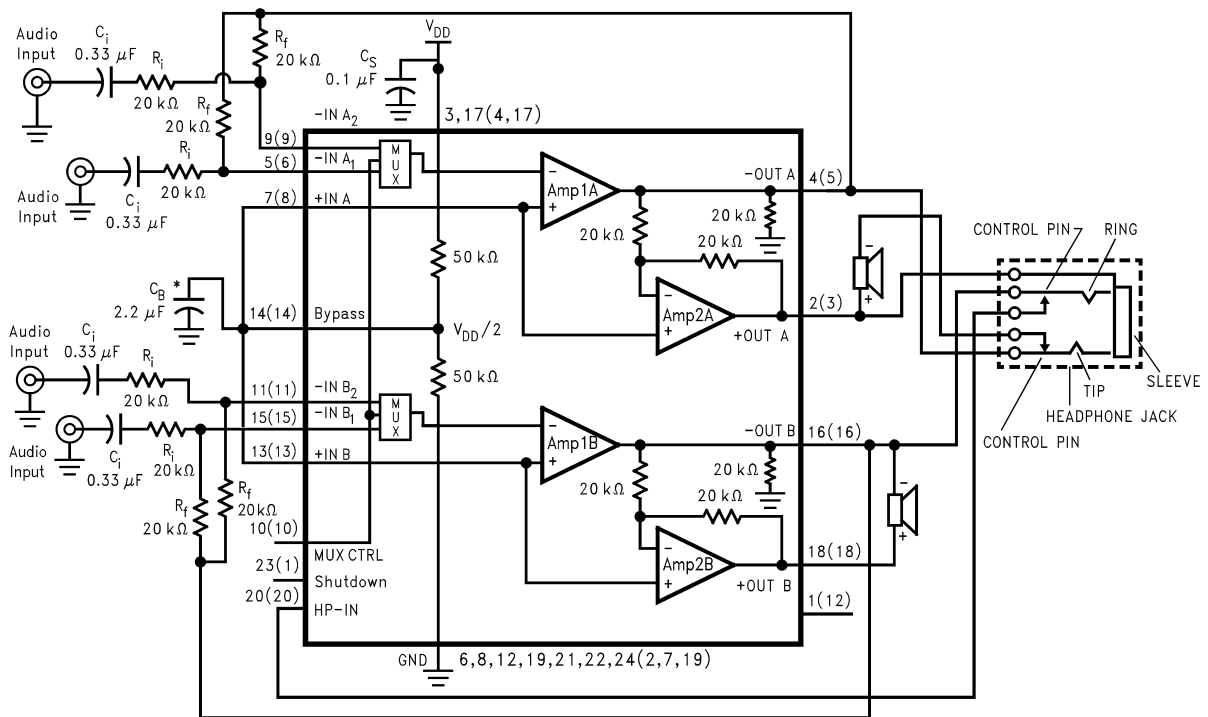

FIGURE 4. Typical Audio Amplifier Application Circuit
The LM4867's noise-free operation plus coupling-capacitorless headphone operation and functional compatibility with the LM4873 and the LM4863 simplifies upgrading systems using these parts. Upgrading older designs that use either the LM4863 or the LM4873 is easy. Simply remove and short the coupling capacitors located between the LM4873's or LM4863's Amp1A and Amp1B outputs and the headphone connections. Also remove the $1\text{k}\Omega$ resistor between each headphone connection and ground. Finally, remove any resistors connected to the HP-IN pin (typically two $100\text{k}\Omega$ resistors). Connect the HP-IN pin directly to the headphone jack control pin as shown in Figure 4.
The LM4867's unique headphone sense circuit requires a dual switch headphone jack. Replace the four-terminal headphone jack used with the LM4863 and LM4873 with the five-terminal headphone jack, such as the Switchcraft 35RAPC4BH3, shown in Figure 4. Connect the +OUT A (Amp2A) pin to the five-terminal headphone jack's sleeve pin.
As shown in *Figure 4*, the LM4867 consists of two pairs of operational amplifiers, forming a two-channel (channel A and channel B) stereo amplifier. (Though the following discusses channel A, it applies equally to channel B.) External resistors R_f and R_i set the closed-loop gain of Amp1A, whereas two internal 20kΩ resistors set Amp2A's gain at -1. The LM4867 drives a load, such as a speaker, connected between the two amplifier outputs, -OUTA and +OUTA.
Figure 4 shows that Amp1A's output serves as Amp2A's input. This results in both amplifiers producing signals identical in magnitude, but 180° out of phase. Taking advantage of this phase difference, a load is placed between -OUTA and +OUTA and driven differentially ('commonly referred to as bridge mode'). This results in a differential gain of
The dramatic jump in distortion for loads less than 10Ω occurs when current limiting circuitry activates. During SE operation, AMP2A (refer to Figure 4) drives the headphone sleeve. An on-board circuit monitors this amplifier's output current. The sudden increase in THD+N is caused by the current limit circuitry forcing AMP2A into a high-impedance output mode. When this occurs, the output waveform has discontinuities that produce large amounts of distortion. It has been observed that as the output power is steadily increased, the distortion may jump from 5% to greater than 35%. Indeed, 10% THD+N may not actually be achievable.
Amplifying the lowest audio frequencies requires high value input coupling capacitor (C_i in Figure 4). A high value capacitor can be expensive and may compromise space efficiency in portable designs. In many cases, however, the speakers used in portable systems, whether internal or external, have little ability to reproduce signals below 150Hz. Applications using speakers with this limited frequency response reap little improvement by using large input capacitor.
As shown in Figure 4, the input resistor (R_i) and the input capacitor, C_i produce a -3dB high pass filter cutoff frequency that is found using Equation (7).
As an example when using a speaker with a low frequency limit of 150Hz, C_i , using Equation (4) is $0.063\mu F$. The $1.0\mu F$ C_i shown in Figure 4 allows the LM4867 to drive high efficiency, full range speaker whose response extends below 30Hz.